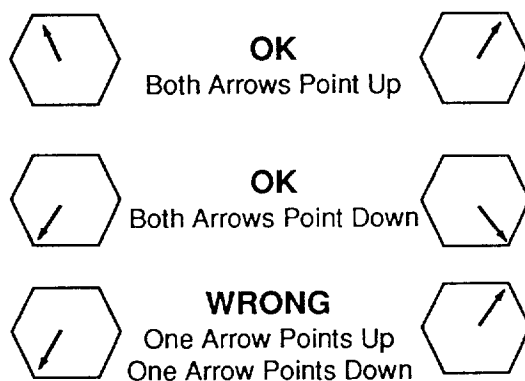

Fig 71A
20. Make sure *bearings* are adjusted evenly. To do this, check the position of the arrow on the head of the screw. (Fig. 71A)